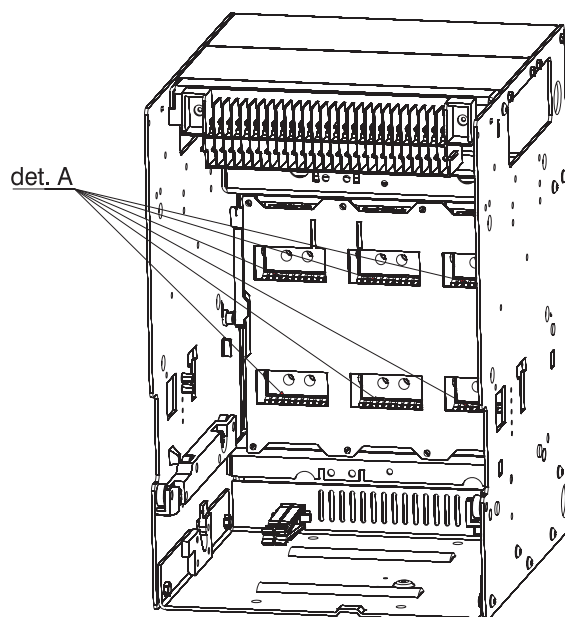

Fig. 42
- Make sure that the isolating jaw contacts are in a good condition (for withdrawable circuit-breakers, see det. A, fig 42).